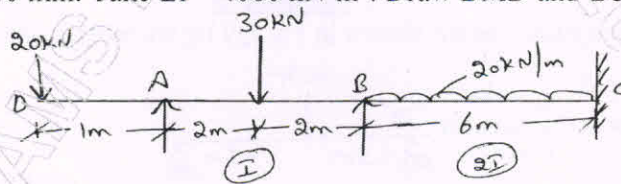

Fig.Q3 (16 Marks)
- 3 Analyze the continuous beam by moment distribution method shown in Fig.Q3. The support 'B' sinks by 10 mm. Take $EI = 4000 \text{ kN-m}^2$. Draw BMD and EC.